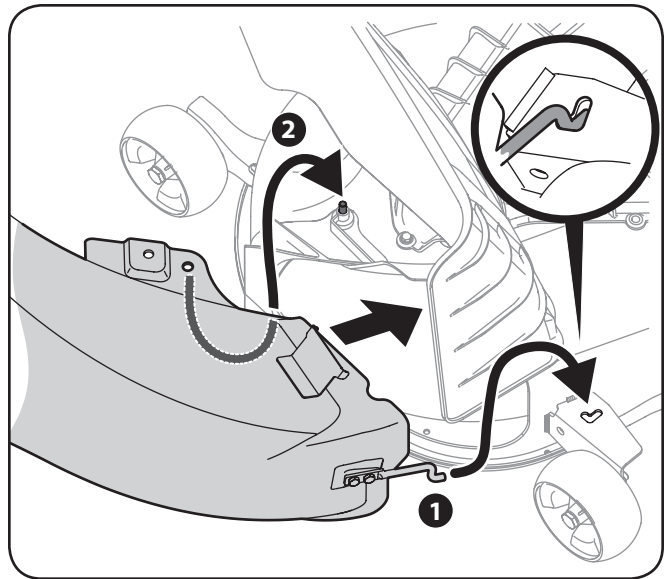

Figure 5-22
- Insert the end of the discharge chute elbow (1) into the hole provided in the deck wheel mount as shown in the inset of Figure 5-22.
- Pivot the discharge chute rearward until the hole in the discharge chute elbow aligns with the pin on the deck adapter. Move the discharge elbow down onto that pin as shown in 2 of Figure 5-22.